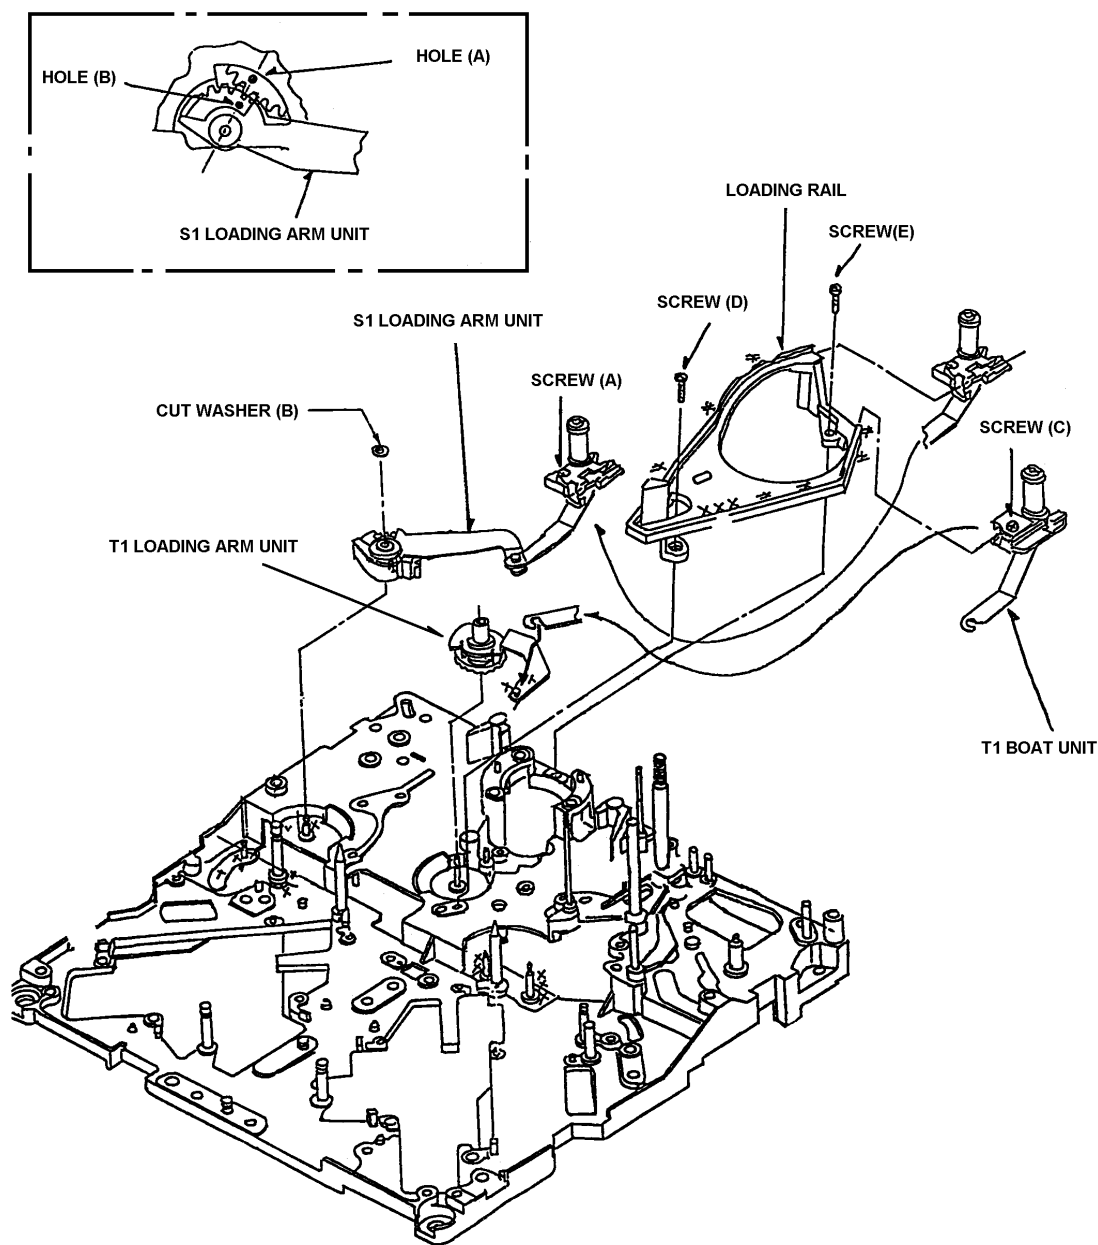

Figure 1-19
1. Remove the S5 Post Base Unit. (Refer to item 1-17)
2. Remove the Tension Arm Unit. (Refer to item 1-18).
3. Unscrew the screw (A) and remove the S1 Post from Loading Rail as shown in Figure 1-19.
4. Remove the Cut Washer (B) and remove the S1 Loading Arm Unit as shown in Figure 1-19.
Install and adjust so that the Hole (A) is to be parallel with Hole (B) as shown in Figure 1-19.
1. Unscrew the screw (C) and remove the T1 Post from Loading Rail as shown in Figure 1-19 on the above page.
2. Hang off the T1 Boat Unit from T1 Loading Arm Unit as shown in Figure 1-19.
1. Remove the cylinder Unit. (Refer to item 1-1)
2. Move the T1 Post to loading direction by manual ejecting method until the screw (D) can be removal position as shown in Figure 1-19.
3. Unscrew the 2 screws (A) and (C), then remove the S1 and T1 Post from Loading Rail as shown in Figure 1-19.
4. Unscrew the 2 screws (D) and (E), then remove the Loading Rail as shown in Figure 1-19.
5. Remove the T1 Loading Arm Unit as shown in Figure 1-19.
1. When install the T1 Loading Arm Unit, then the hole (A) should be matched hole (B) as shown in Figure 1-19.